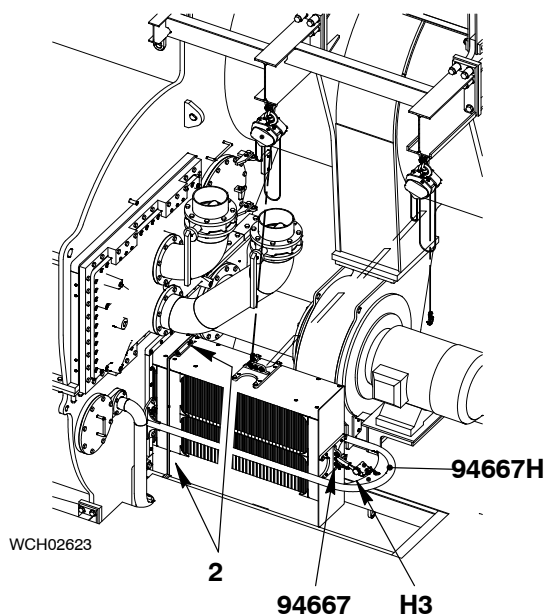

Fig. 5
- 1) Operate the manual ratchet (H3) to pull the water separator (1) sufficiently so you can attach the tool (94667) to the water separator (1).
- 2) Attach the tool (94667) to the top of the water separator (1).
- 5) Operate the manual ratchet (H3) to pull the water separator (1) from the receiver. At the same time, operate the chain block (H1) to hold the water separator.
- 6) Remove the two top screws (2, Fig. 5) and the two bottom screws from between the front and rear water separators.